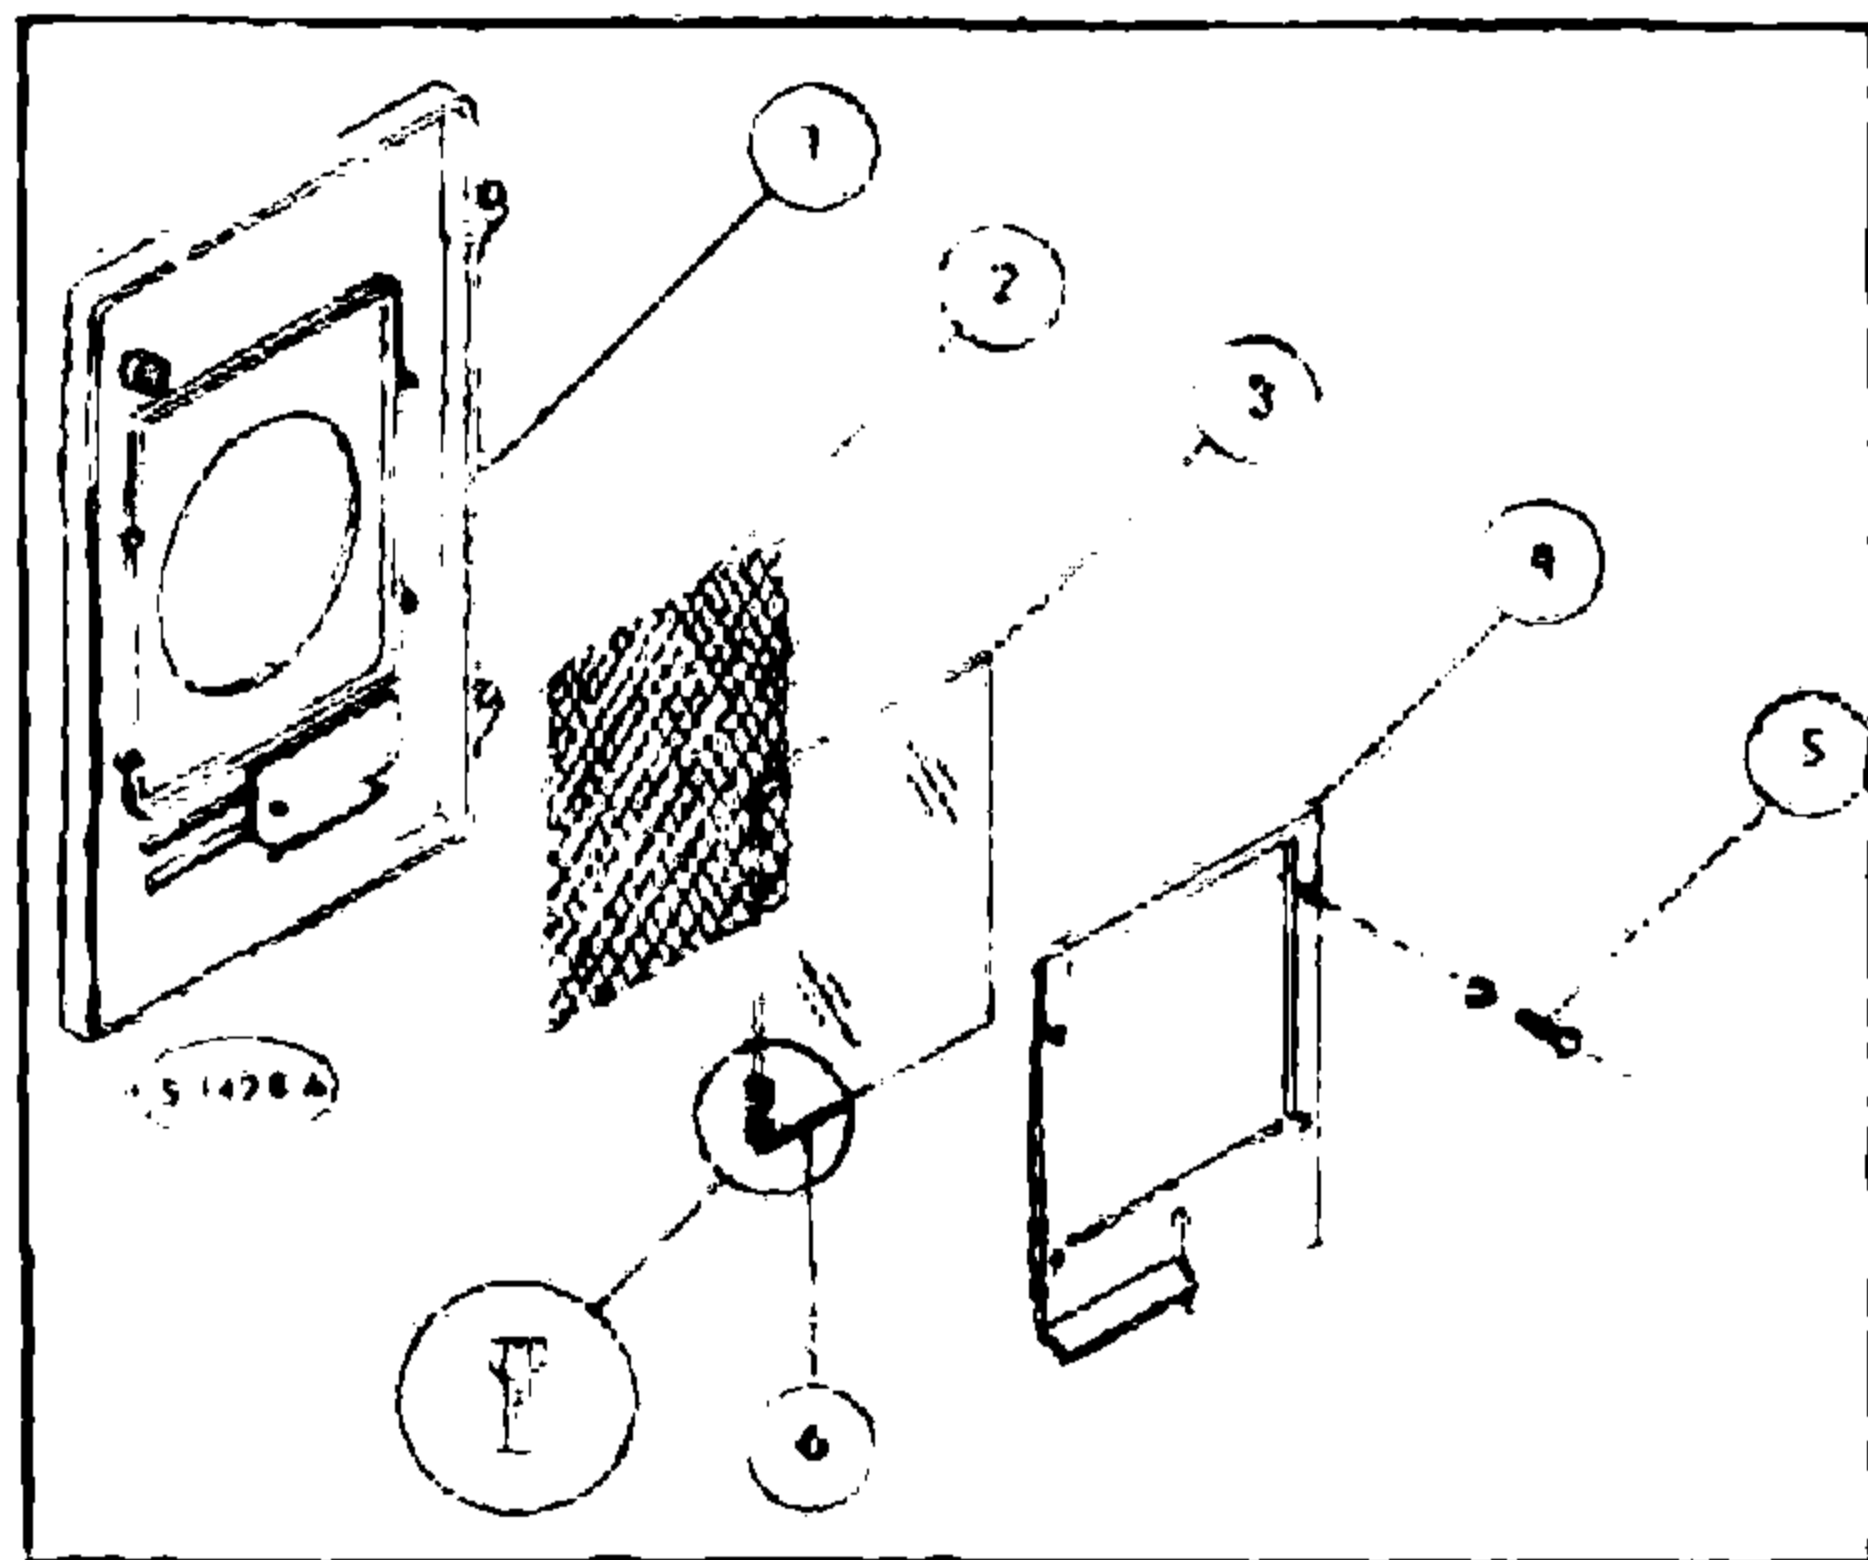

FIG. 1A
Glass Panel Kit 778209 or Steel Panel Kit 778210 must be used with fireplace stove or fireplace insert. These assemble into the door. Refer to items 1 and 3 in Figure 1A. The glass or steel panels install by the same procedure.
Remove the four screws (5) and retainer (4) from the back of the door. Place the gasket (6) completely around the steel or glass panel as shown in Figure 1A. The screen (2) must remain in the front of the door. Place the steel or glass with gasket behind the screen. Secure the retainer and the four screws.